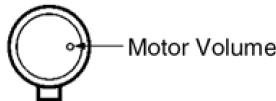

Fig. 11
- 3. Adjust the motor screw so that the following output level is produced. (Fig. 11)